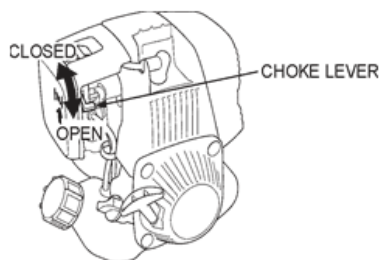

Figure 01
- 1) To start a cold engine, move the choke lever (Figure 01) to the CLOSED position.